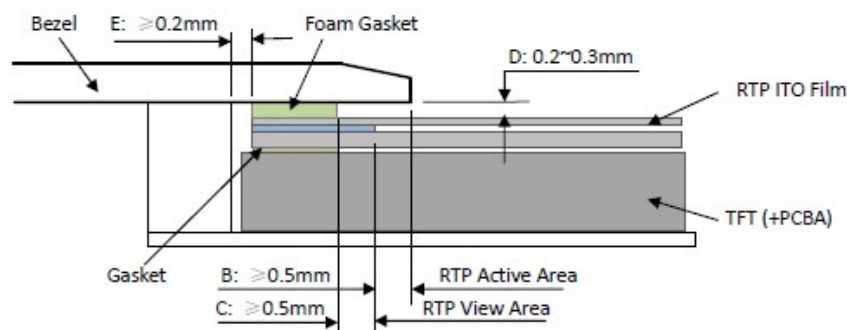

Figure 4
- It should bezel touching the RTP Active Area (A.A.) to prevent abnormal touch. It should left gap D=0.2~0.3mm in between. (Figure 4)
- Outer bezel design should take care about the area outside the A.A. Those areas contain circuit wires which is having different thickness. Touching those areas could de-form the ITO film. As a result bezel the ITO film be damaged and shorten its lifetime. It is suggested to protect those areas with gasket (between the bezel and RTP). The suggested figures are $B \geq 0.50\text{mm}$; $C \geq 0.50\text{mm}$. (Figure 4)
- The bezel side wall should keep space E= 0.2 ~ 0.3mm from the RTP. (Figure 4)
- 为避免面框直接压在动作区 (A. A.) 上造成误动作, 面框与电阻触摸屏 (RTP) 之间应留有一定的空隙 $D=0.2 \sim 0.3\text{mm}$ 之间. (附图 4)
- 设计面框时, 要注意用面框保护触摸屏四周的非保证操作区域, 因为布线区域在此处形成一台阶, 在此区域附近操作时 ITO Film 变形较大, 容易导致 ITO 损坏而降低寿命。为保护 RTP 和避免误操作, 在 RTP 与面框之间垫缓冲物 (Gasket), 我们建议设计面框应覆盖动作区的边缘, 面框边缘到 V. A. 区的距离 $B \geq 0.50\text{mm}$; 垫圈内边缘到 V. A. 区的距离 $C \geq 0.50\text{mm}$. (附图 4)
- 在设计面框与 RTP 组装时, 应考虑到面框内侧与 RTP 外侧的间距 $E \geq 0.2\text{mm}$. (附图 4)